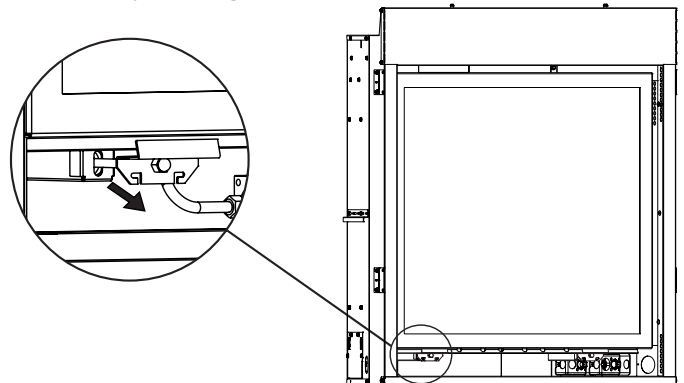

Figure 5
2. Pull outward to release both latches at bottom of firebox assembly. **See Figure 5.**
22. Reinstall the glass frame removed in steps 2 and 3. **See Figures 5 and 6.**